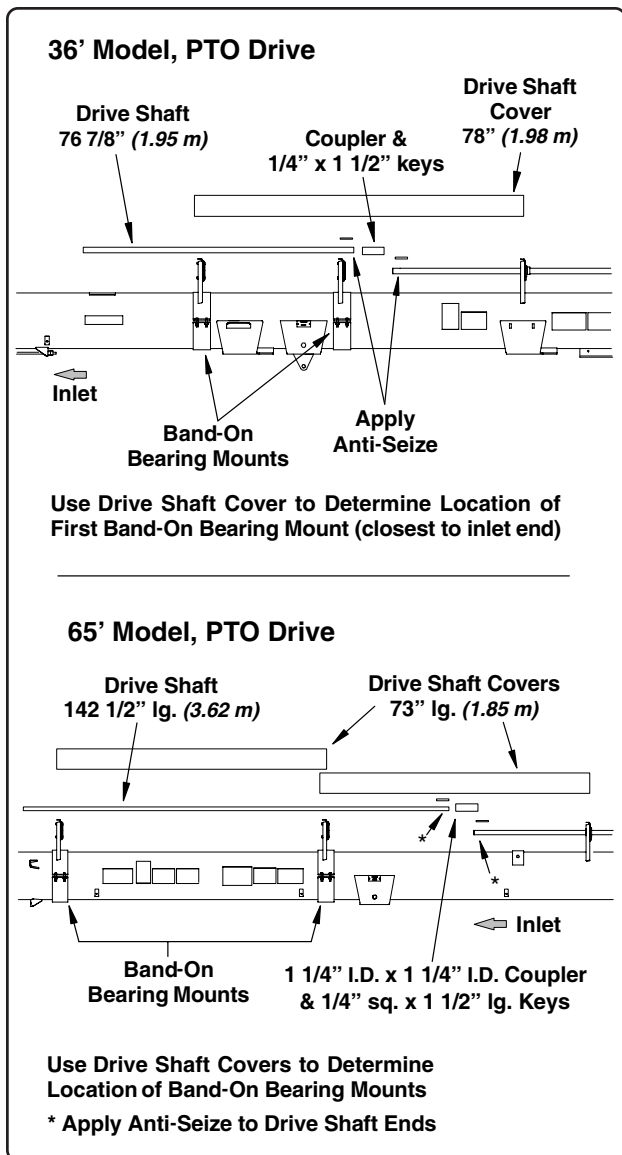

Fig. 27
1. Loosely fasten the band-on bearing mounts onto the auger housing at the approximate locations shown in Fig. 27 (**the bearings will be positioned towards the discharge end of the auger**).